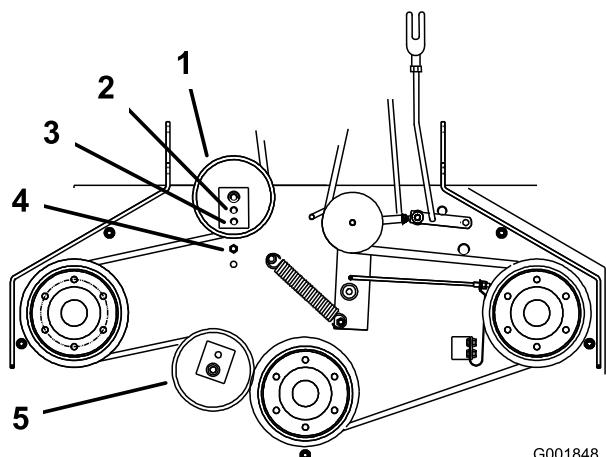

Figure 45
6. If there is no adjustment left in the turnbuckle and the belt is still loose, position the rear idler pulley in the middle or front hole (Figure 45). Use the hole that will give the correct adjustment.
7. When the idler pulley is moved the belt guide must be moved. Move the belt guide to the front position (Figure 45).